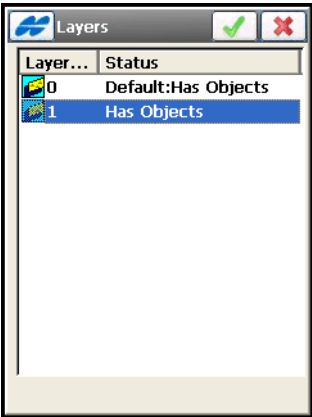

Figure 6-48. Select Points from Layer
**From Layer:** select the points from the objects which lie on the selected layer. The *Layers* screen displays (Figure 6-48).